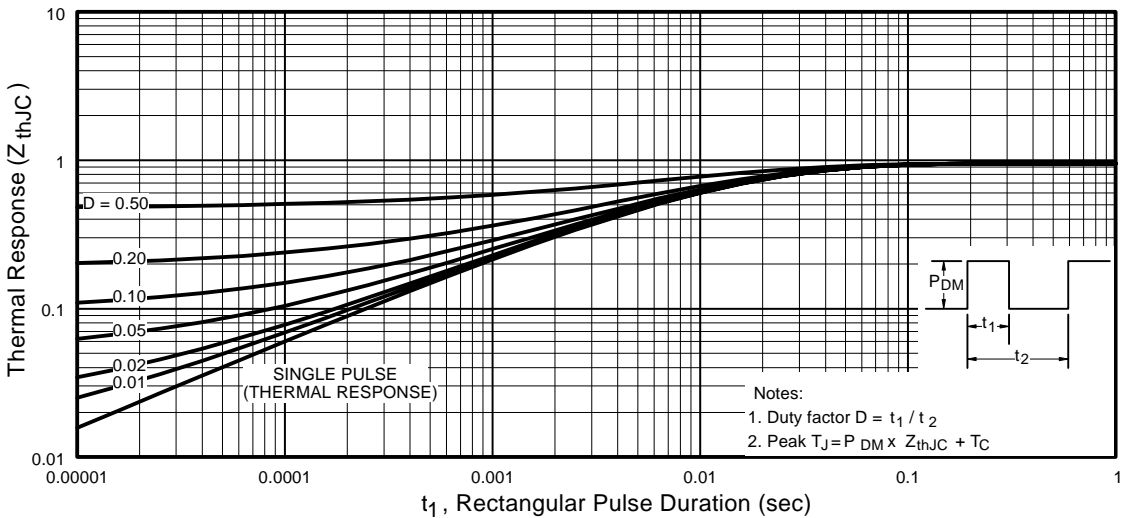

Fig 11. Maximum Effective Transient Thermal Impedance, Junction-to-Case
- ① Repetitive rating; pulse width limited by max. junction temperature. (See fig. 11)
- ② Starting T_J = 25°C, L = 1.7mH